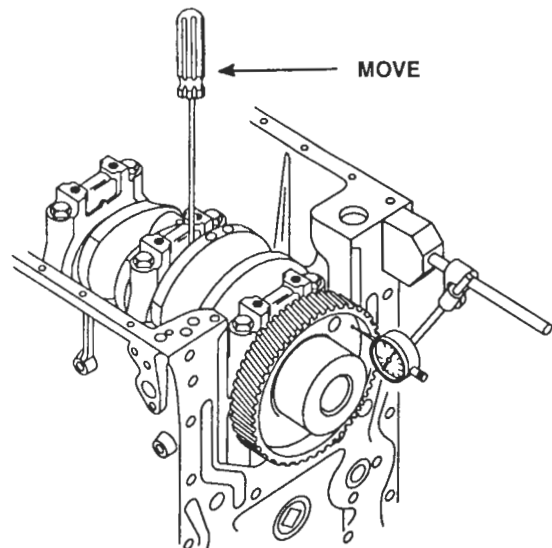

Figure 9. Checking Crankshaft End Play
7. Check the crankshaft end play by moving the crankshaft toward the gage with a small (less than 12 inches) pry bar (Figure 9.) Keep a constant pressure on the pry bar and set the dial indicator to zero. Then, remove and insert the pry bar on the other side of the bearing cap. Force the crankshaft in the opposite direction and note the amount of end play on the dial. The end play should be .004 to .011 inches with new parts or a maximum of .018 inch with used parts. Insufficient end play can be the result of a misaligned rear main bearing or a burr or dirt on the inner face of one or more of the thrust washers.